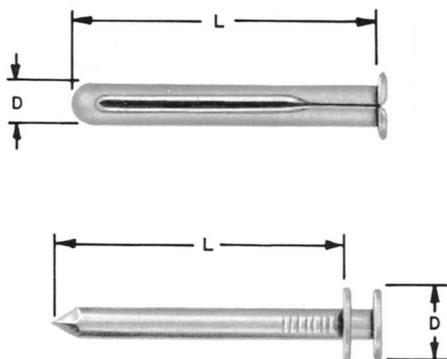

Fig. 2 — C Drive Anchor
1.04 C drive anchors (Fig. 2) are used for temporary installations. This anchor is supplied with a double-headed nail to facilitate removal.